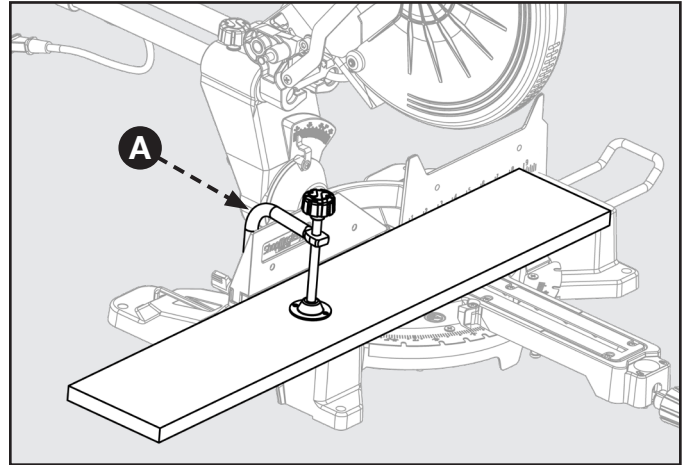

FIGURE 20
When cutting wide work pieces, such as 2 in. X 12 in., clamp the workpiece to the work table using a work clamp (A) as shown in Figure 20.